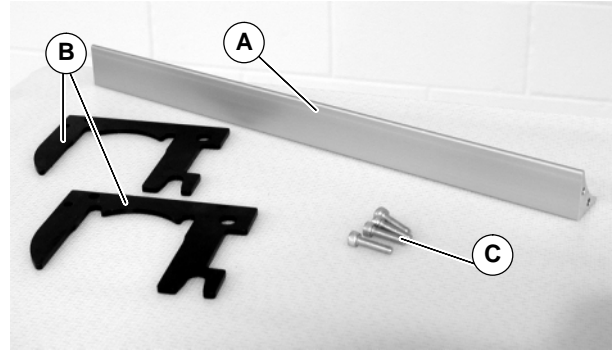

Figure 11
1. Gather components (Figure 11)